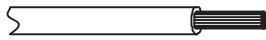

Fig. 23 —Stripping the Wire
2. Strip a suitable length of the insulation layer (see Fig. 23).